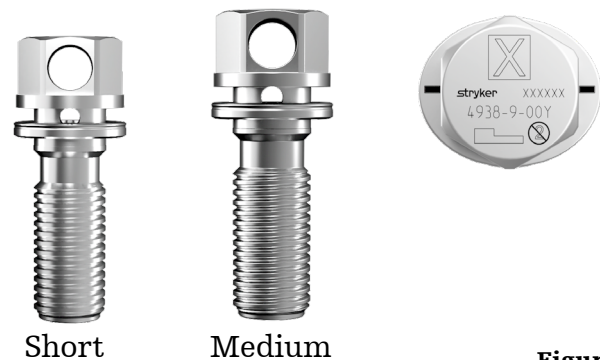

Figure 56
- Wire cannulation is located at the center of the wire bolt body (**Figure 56**)